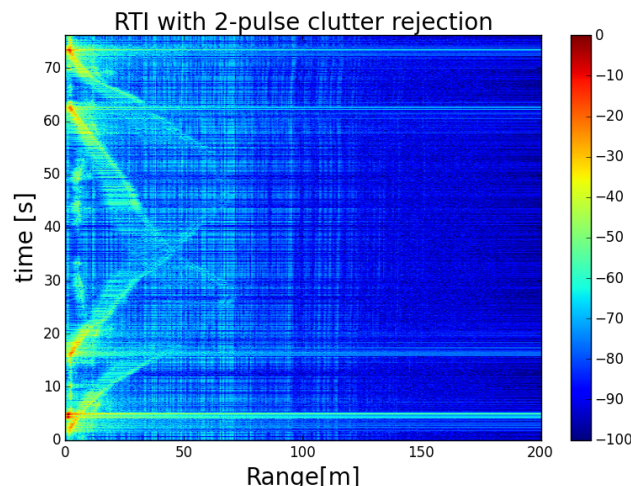

Figure 8: Range-Time-Intensity (RTI) plot of the measurement data in “running\_outside\_20ms.wav”.
5. A Python script “range\_wav.py” is available at this link ([https://github.com/ucdart/UCD-EEEC134/blob/master/labs/lab6/code/range\\_wav.py](https://github.com/ucdart/UCD-EEEC134/blob/master/labs/lab6/code/range_wav.py)) to process the recorded .wav file. An example .wav file named “running\_outside\_20ms.wav” can be analyzed for you to get an idea of the expected outcome. Fig. 8 shows the range-time-intensity (RTI) plot of the data in “running\_outside\_20ms.wav”. You can see two objects (people) walking away from and back to the radar.